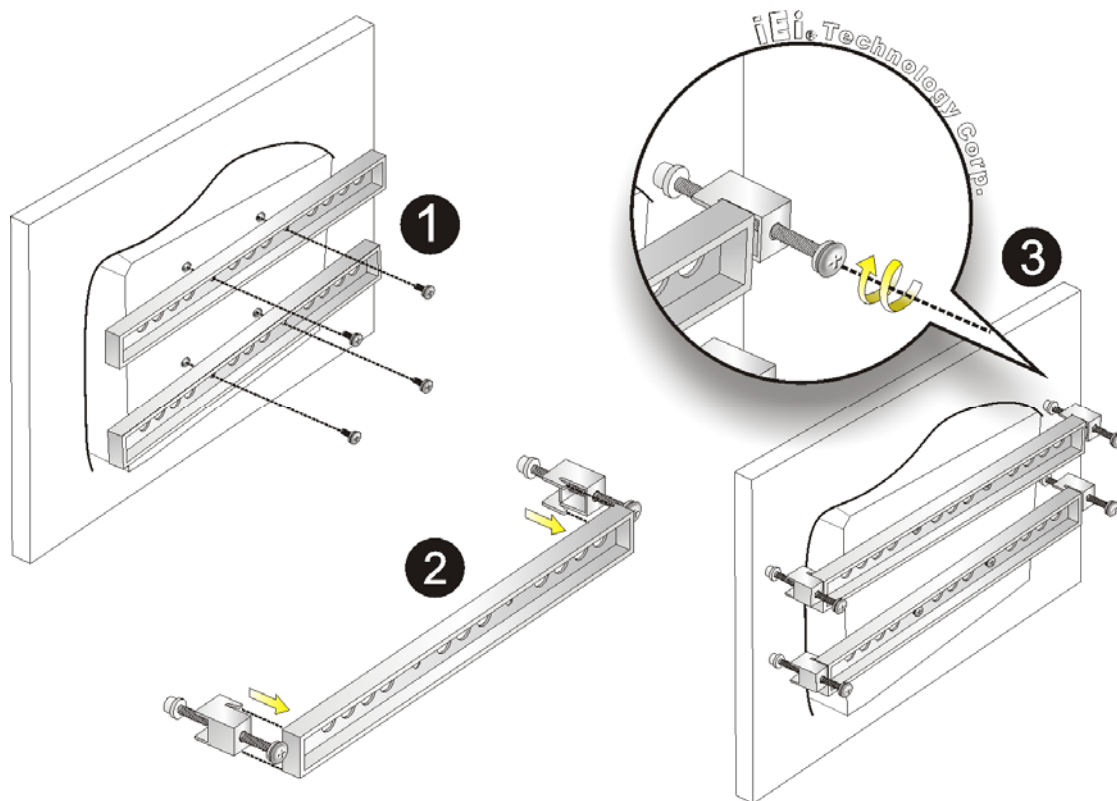

Figure 2-20: Tighten the Panel Mounting Clamp Screws
- Step 5:** Secure the two panel mounting brackets to the rear of the panel PC by inserting the four retention screws into the VESA mounting holes (**Figure 2-20 ①**).
- Step 6:** Insert the panel mounting clamps into the pre-formed holes along the two edges of the panel mounting brackets (**Figure 2-20 ②**). There are a total of 4 panel mounting clamps for the AFL2-W15A-N270.
- Step 7:** Tighten the screws that pass through the panel mounting clamps until the plastic caps at the front of all the screws are firmly secured to the panel (**Figure 2-20 ③**).